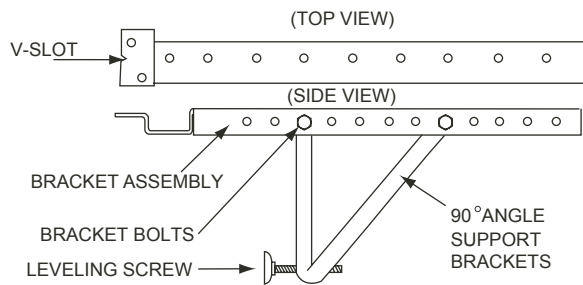

FIGURE 8 — BRACKET ASSEMBLY
10. Attach the mounting brackets (provided) to the angle brackets (provided) using two 1 1/2 -in. bolts, lock washers, and nuts (provided). Two bolts are used on each bracket assembly. See Fig. 8. Do not tighten the bolts immediately. It may be necessary to adjust the depth of the bracket assembly depending on the window sill. Install the 2 leveling screws (provided) onto the bracket assemblies. See Fig. 8.